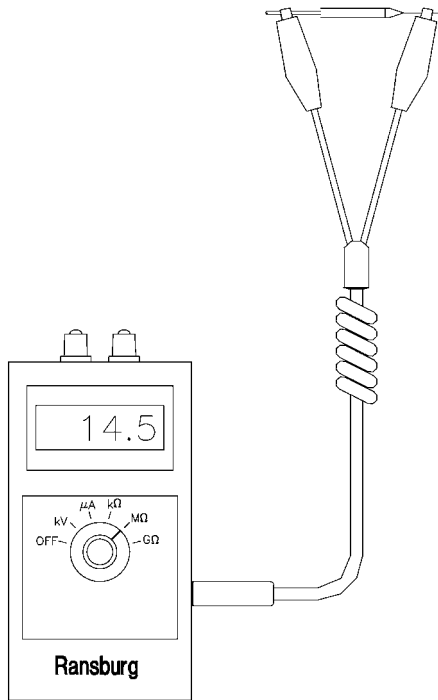

Figure 4: Measuring Electrode Resistance
3. For resistance checks, set the meter to MΩ scale (see Figure 4). Attach one alligator clip to the electrode wire of a 70430-XX screwed onto a needle shaft (or similar component). Attach the other lead to the shaft of the needle shaft (or other end of a similar component). The electrode reading should be approximately 14.5 MΩ to 19MΩ.